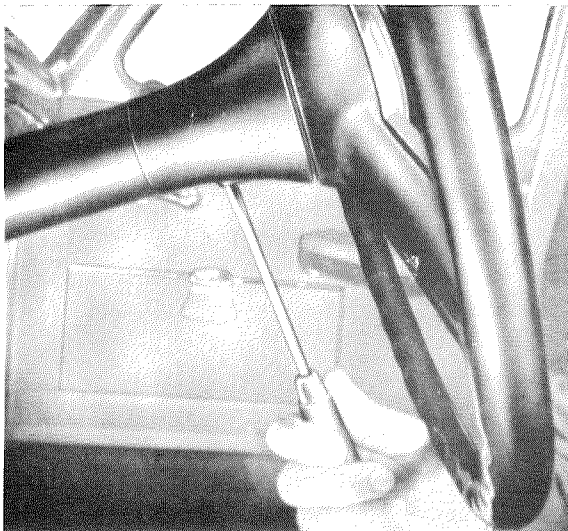

Fig. 26 — 12/1
2. Loosen and remove the upper clamping screw at the steering coupling. Unscrew the grub screw in the steering column jacket (Fig. 26 — 12/1). Pull the steering tube out of the steering coupling.